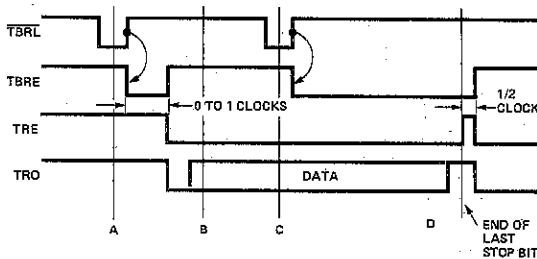

FIGURE 7. Transmitter Timing (Not to Scale)
Transmitter timing is shown in Figure 7. (A) Data is loaded into the transmitter buffer register from the inputs TBR1 through TBR8 by a logic low on the TBRLoad input. Valid data must be present at least t_{DS} prior to and t_{DH} following the rising edge of TBR1. If words less than 8 bits are used, only the least significant bits are used. The character is right justified into the least significant bit, TBR1. (B) The rising edge of TBR1 clears TBREmpty. 0 to 1 clock cycles later, data is transferred to the transmitter register, TREmpty is cleared and transmission starts. TBREmpty is reset to a logic high. Output data is clocked by TRClock, which is 16 times the data rate. (C) A second pulse on TBRLoad loads data into the transmitter buffer register. Data transfer to the transmitter register is delayed until transmission of the current character is complete. (D) Data is automatically transferred to the transmitter register and transmission of that character begins.